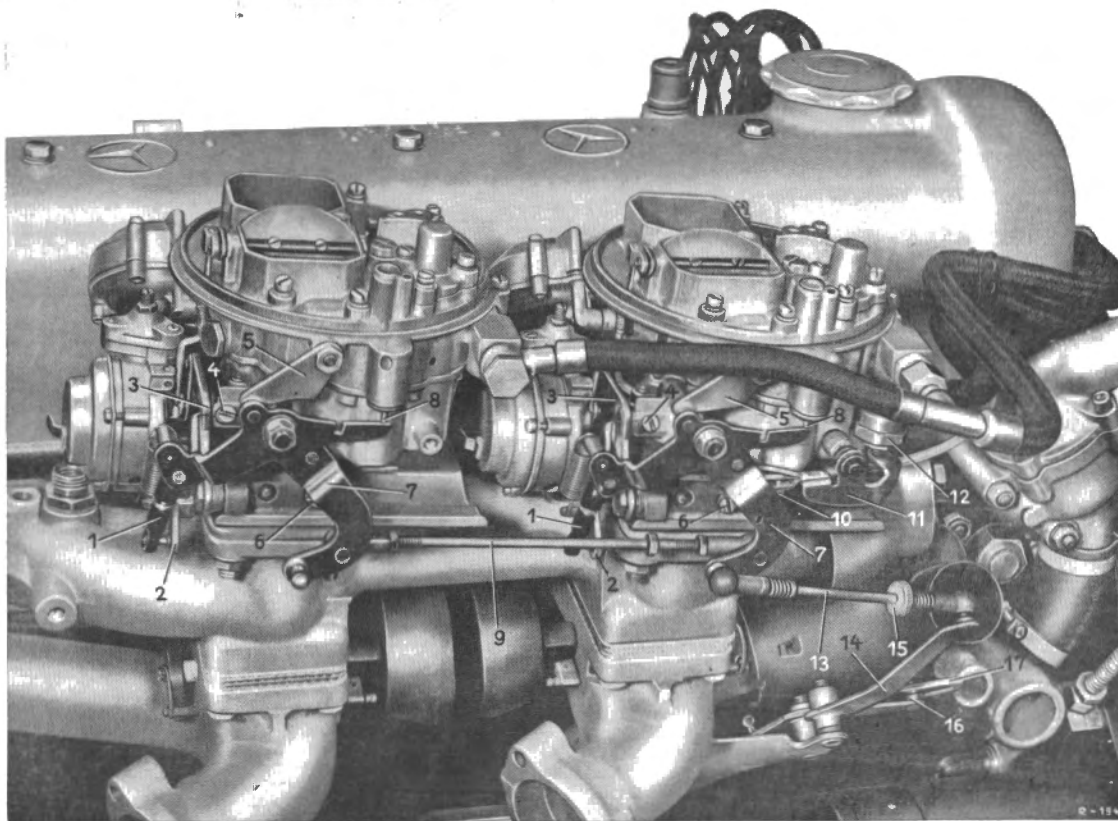

Fig. 00-13/5
1. Detach the push rods (9) and (13). Check the control levers and the throttle valve shafts for freedom of movement.
Check the full-load stop using the reversing lever (7) to push the throttle valve lever (2) until it rests against the carburetor housing (Fig. 00-13/5).